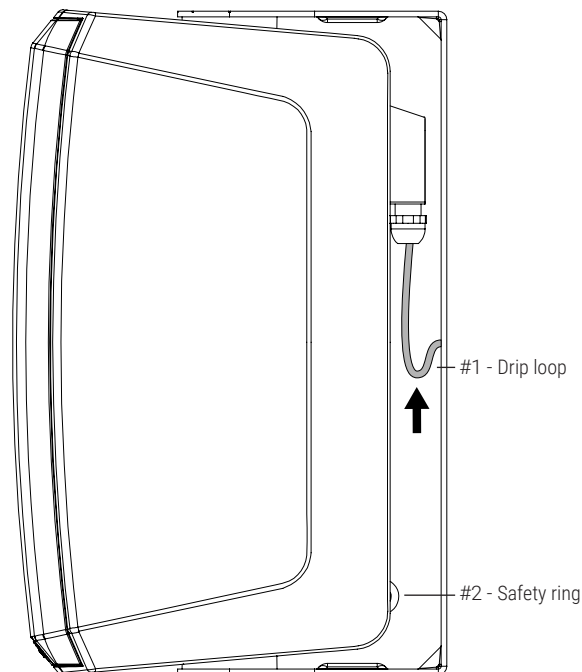

Figure 22
Ensure that one point of the loudspeaker wire is below the point where the wire is fed through the yoke bracket to create a "service" or "drip" loop. (Figure 22 - #1) This directs water away from the service panel of the loudspeaker.
**Note:** Connect the safety tether from the safety ring at the bottom of the loudspeaker (Figure 22 - #2) to a structurally adequate location on the mounting surface to support the weight of the loudspeaker should the loudspeaker fall.